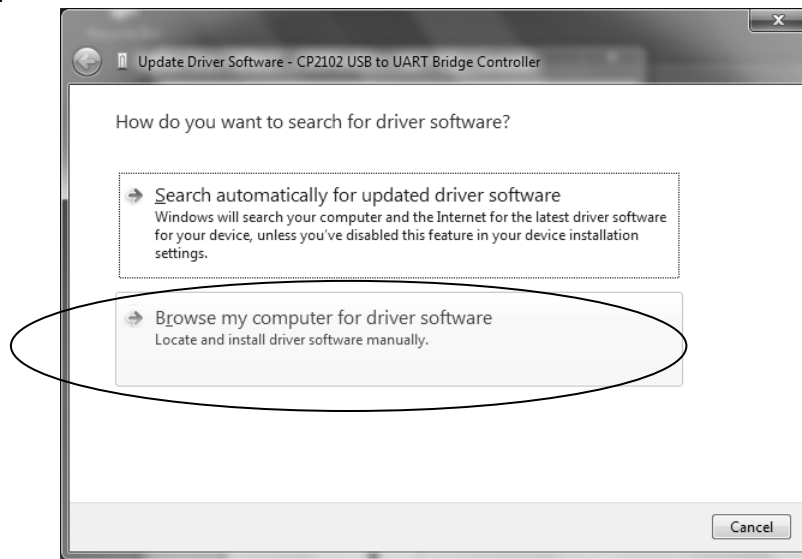

Fig. 63 Update Driver Software
(13) The screen shown in Fig.63 appears. Select "**Browse my computer for driver software**", then click it.